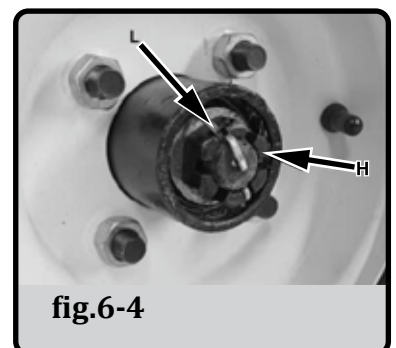

fig.6-4
8. Install 4 mm cotter pin (fig.6-4, L) through castle nut (fig.6-4, H) and hole in axle end. If holes are not aligned, slightly loosen castle nut -no more than one castellation- to align holes.
9. Spread cotter pin (L) to retain castle nut. See figure 6-4.